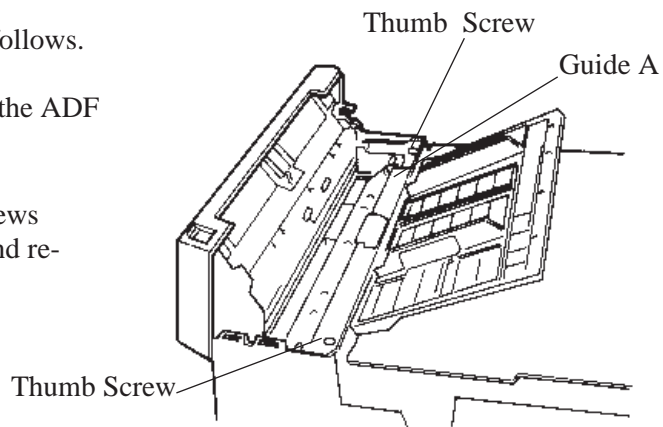

Figure 5.4 Pick Roller replacement
- b. Remove two thumb screws shown in Figure 5.4. And remove the Guide A.